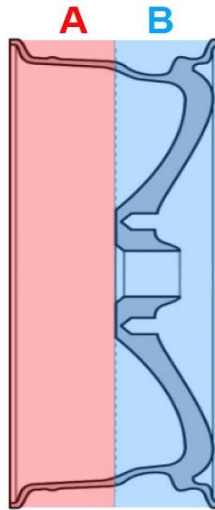
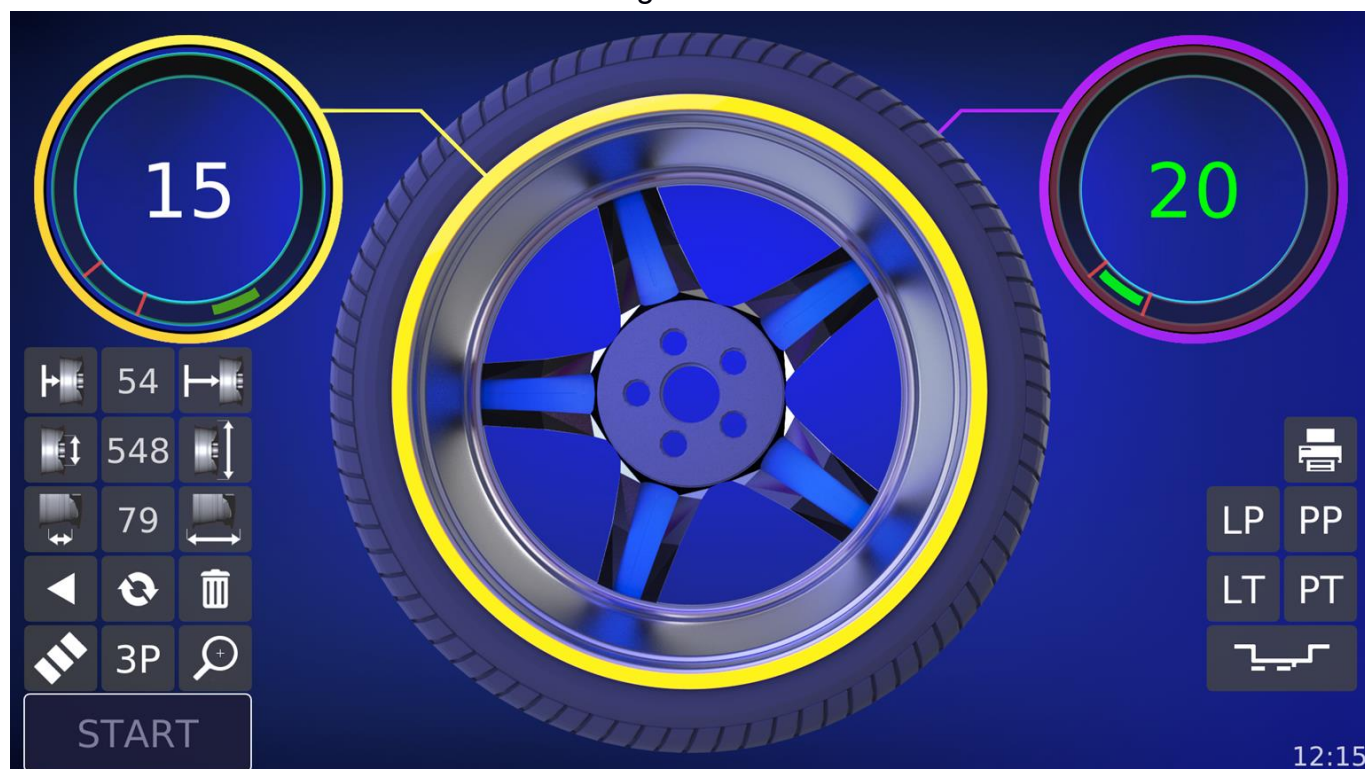

Fig. 17: Weights fastening zone
Fig. 20: Exemplary screen after the measurement
Additionally the print icons on the right side may be displayed on the screen. They are active only when printing is enabled in the settings. See the chapter PRINTING for a description. A field below the print icons is empty in Figure 16 and shows the weight distribution icon in Figure 20. This field appears after taking the measurement with the measuring arm or pressing the button , erase by pressing  and shows the selected weight fastening mode.
To measure with the measuring arm extend the arm so that the laser starts displaying a line and a dot on the rim. Regardless of whether the weight in space A from Figure 17 is to be clipped-on or taped-on - the laser dot of the arm is connected to the line **at the place of the planned weight attachment**. For clipped-on weights the dot should be aligned with the line on the left edge of the rim, as shown in Figure 18a. In the case of taped-on weights the dot should be placed on the line in the place where the weight is glued, as shown in Figure 18b.
After setting the laser in the appropriate position you need to wait about 2 seconds until the machine save the entered parameters. After the signal the second measuring phase begins with the measuring arm which will allow to determine where the weight for space B of the wheel from Figure 17 will be mounted. If weight is attached to the outer zone B (Figure 17) (not in the center of the rim but on its right edge) put the measuring arm in its place to the zero position. This is the
If the weight is to be mounted in the center of the rim in area B from Fig. 17, after saving the first measurement, insert the measuring arm inside the wheel. This will cause the wheel width to begin to change as the arm continues to move towards the center of the rim. After setting the arm head in the position directing the dot to the line, wait approx. 2 seconds until the machine emits a sound signal and records the result.
- a weight mounted in the center of the rim in area B from Figure 17,
If we want to hide the weight so that it is not visible after putting the wheel on, we can break it into two weights, which will be placed in places not visible from the outside - behind the rim spokes. Program 3P is active in dynamic mode and related to the right unbalance in zone B from Figure 17 for a point defined inside the rim or in static mode for a single point.
Activate the program by pressing **3P**. It always appears when the correction point in zone B from Figure 17 is defined inside the rim or when we measure in static mode. The minimum unbalance value for which the hidden weight option is activated is 7.5 g. An exemplary screen after the measurement has been made is shown in Figure 20.
We start the optimization by measuring the imbalance of the rim itself (without the tyre). Place the rim in the holder with the valve on the holder marker (3 in Figure 3) so that in the second run (after installing the tyre on it) you can mount the wheel in exactly the same way. Using the measuring arm indicate the point on the inner edge of the rim (space A in fig.17), close the hood, select . The optimization has been measured by using the rim width determined from the indicated point and from the ultrasound measurement performed when closing the hood. In case of optimization the entry of the second point inside the rim is blocked.